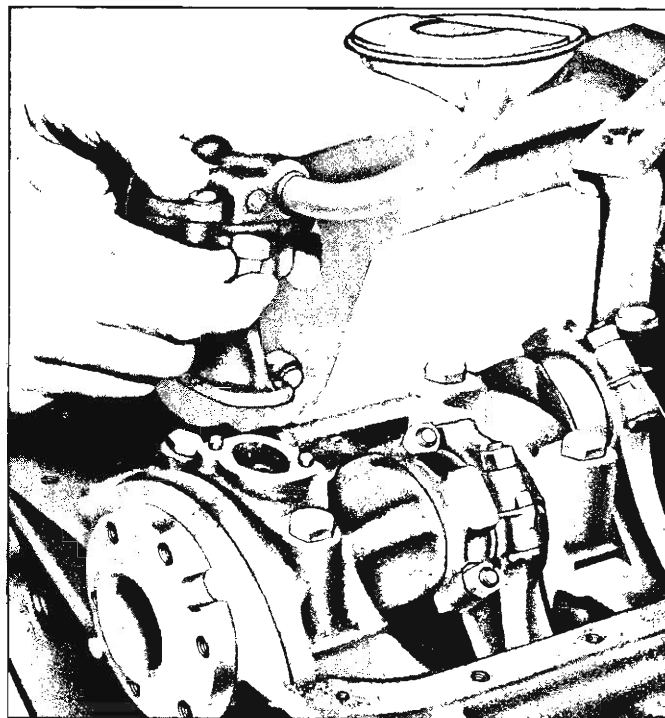

Fig. 9V—Oil Pump Removal and Installation
**NOTE:** Install oil pump screen with bottom edge parallel to oil pan rails (fig. 9V).